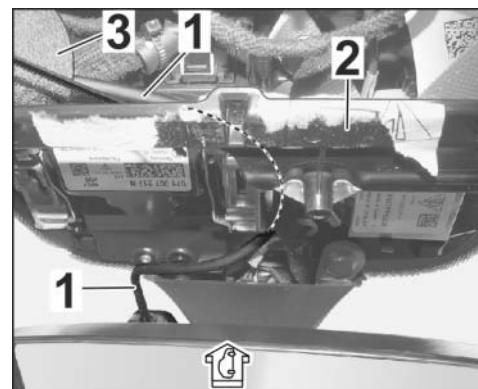

Figure 12
- 2.3.2 Guide wire harness for front camera (dashcam) below headliner frame to roof console. ⇒ *Figure 12*